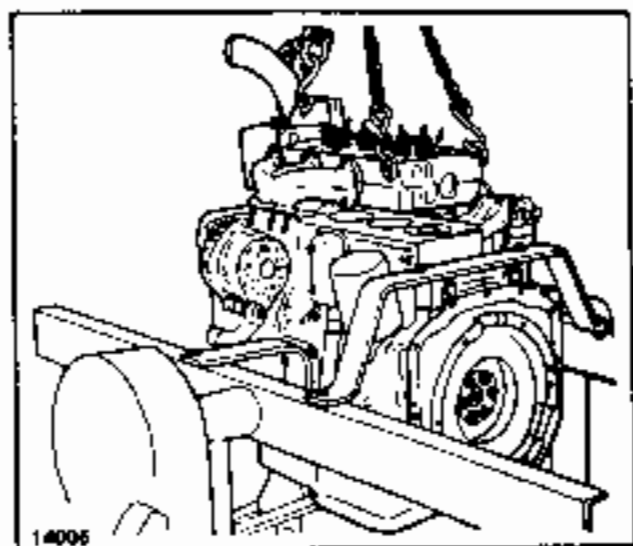

FIG. A.1/4 REMOVING CYLINDER HEAD FROM ENGINE INSTALLED ON ENGINE STAND
FIG. A.1/3 REMOVING THE TAPPET COVER (5) C. Teppet cover attaching nut; 4. Oil filler plug; 6. Intake manifold; 7. Alternator cable band clamps; 8. Nozzle pressure line retaining bracket; 9. Nozzle return oil lines.
The instructions for removing the cylinder head from an engine removed from the tractor are similar to the ones given previously for the tractor installed engine, provided of course that in the former case the engine unit will have to be installed on the shop turnover stand. (See Fig A.1/4).